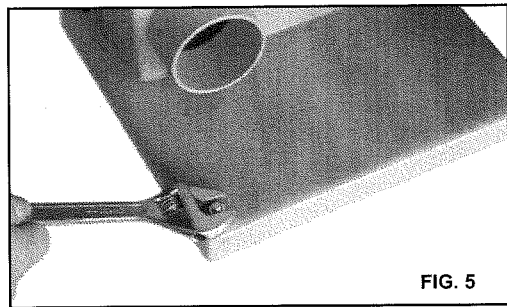

FIG. 5
e. To ensure sufficient upright stability of the machine it should be bolted to floor, bench or worktable. For this purpose 6mm holes are provided in the machine's base. (See Fig. 5)